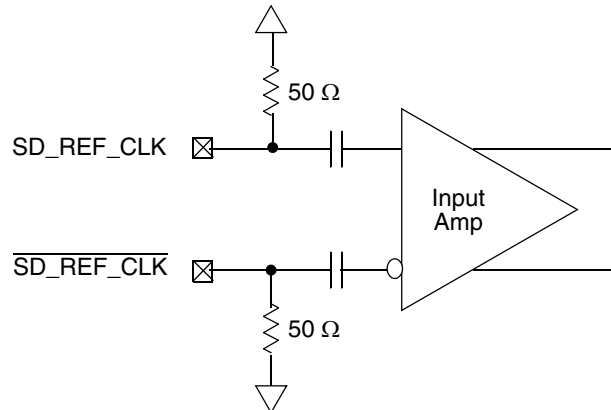

Figure 51. Receiver of SerDes Reference Clocks
Figure 51 shows a receiver reference diagram of the SerDes reference clocks.
- The SD_REF_CLK and $\overline{SD_REF_CLK}$ are internally AC-coupled differential inputs as shown in Figure 51. Each differential clock input (SD_REF_CLK or $\overline{SD_REF_CLK}$) has on-chip 50-Ω termination to $SGND_SRDSn$ (xc0revss) followed by on-chip AC-coupling.